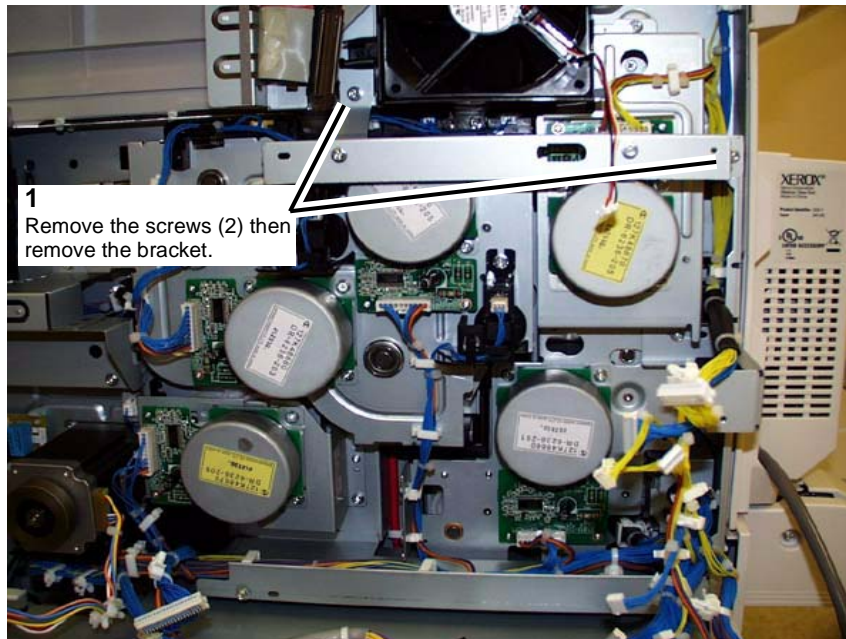

Figure 1 Removing the support bracket
5. Remove the screws (2) and remove the support bracket. (Figure 1)